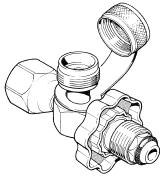

Figure 7.
4. If you would like to use your barbecue with your existing propane system on board, West Marine or your local marine dealer has fittings and hoses available. There is now a simple 'quick-disconnect' adapter that will fit any propane tank (see Figure 7, page 8). It allows you to "T" right at the tank and still have the security of the solenoid switch and manual shut-off valve for your stove or heater below. The adapter, Model 3607306, comes complete with a sealing cap nut. No tools are required for installation, except the first time when you install your stove or heater